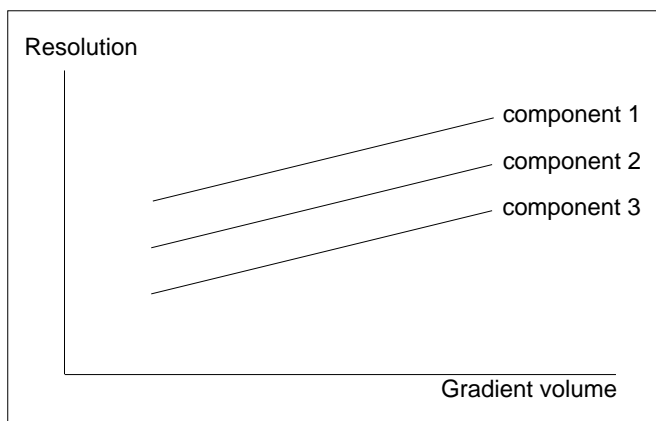
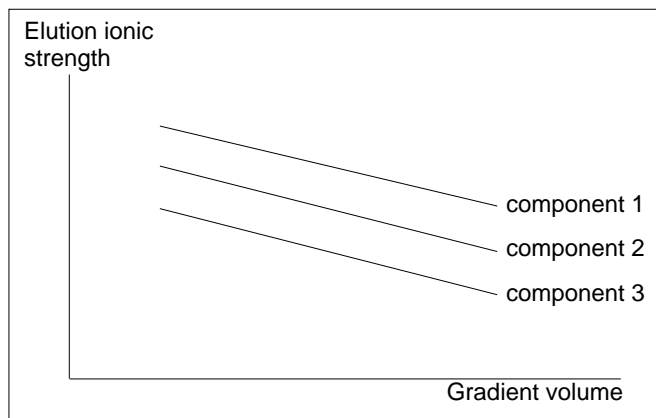

Fig. 2.
Fig. 3.
2. Optimise the gradient volume to get the best resolution on Mono S HR 5/5. The resolution increases with increasing gradient volume (Fig. 2). At the same time, the elution ionic strength for the separated components is reduced (Fig. 3).